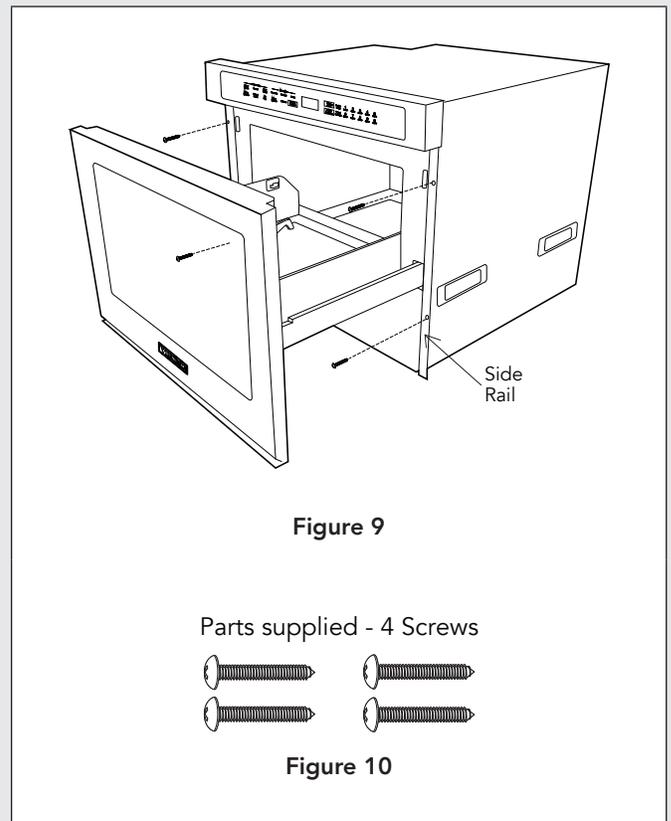

Figure 9
3. Slide the Convection DrawerMicro oven all the way until the mounting flange is flush with the face of the cabinet. See Figure 9.
4. Open the drawer. Using the 4 holes on the drawer as a template, pre-drill the cabinet using a 1/16" bit. See Figure 9.